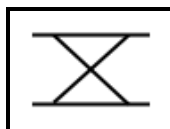

FIGURE 5.6.1 (1)
5.6 Identify the resistance weld symbols in FIGURES 5.6.1 and 5.6.2 below.